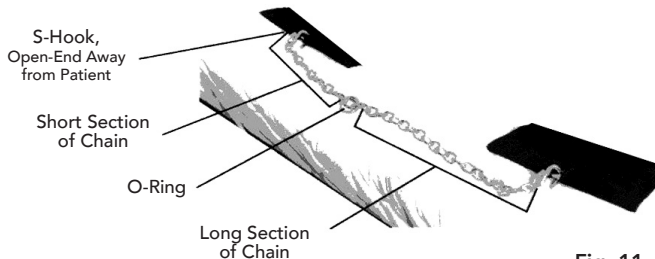

Fig. 11
When using either the chains or straps to connect the sling to the patient lift, the shortest of the two (2) sections of the chains or straps **MUST** be attached to the back section of the sling. Using the long section will leave little or no support for the patient's back. See Fig. 11.